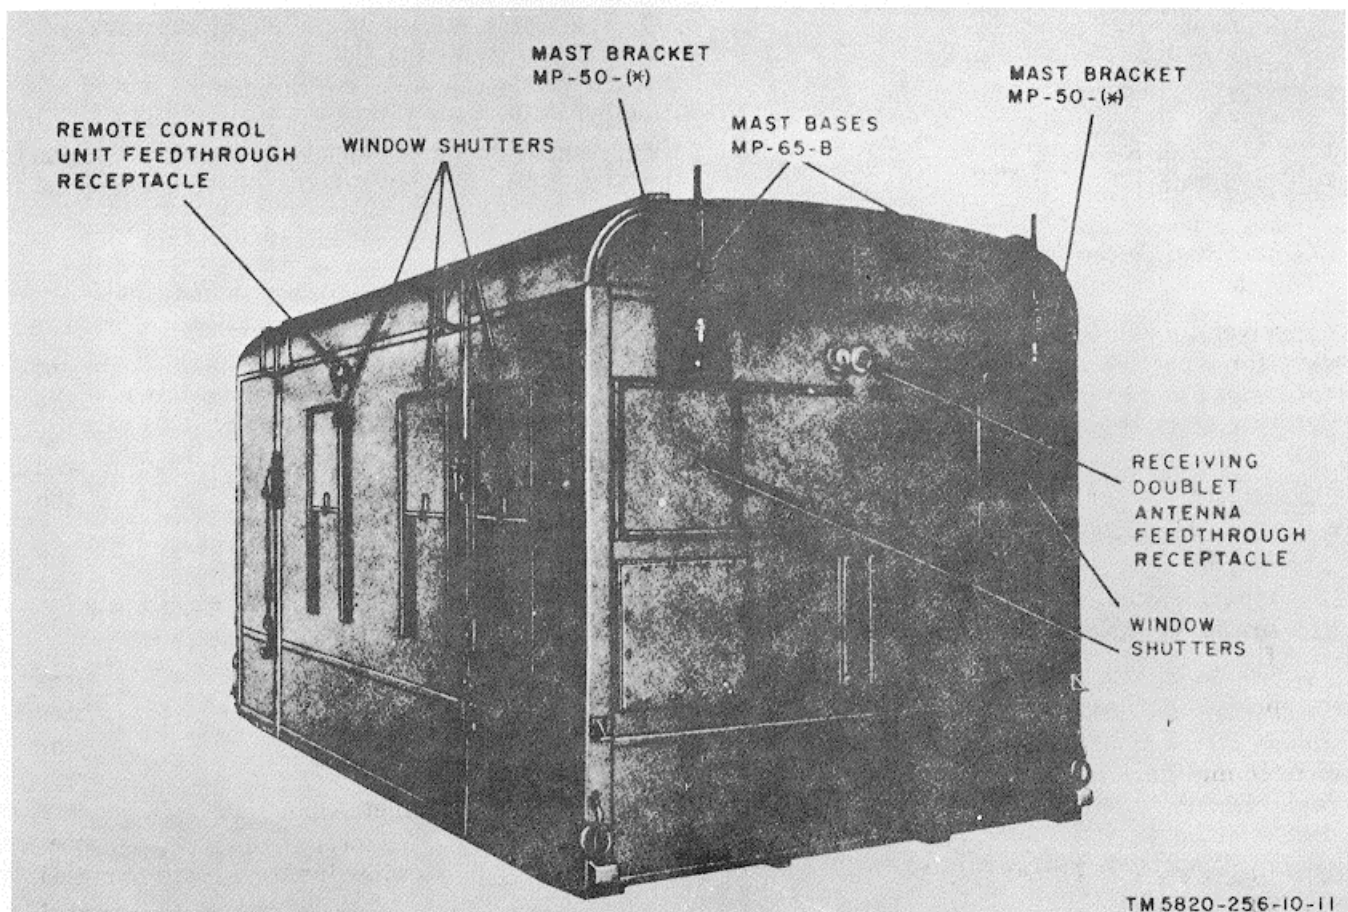
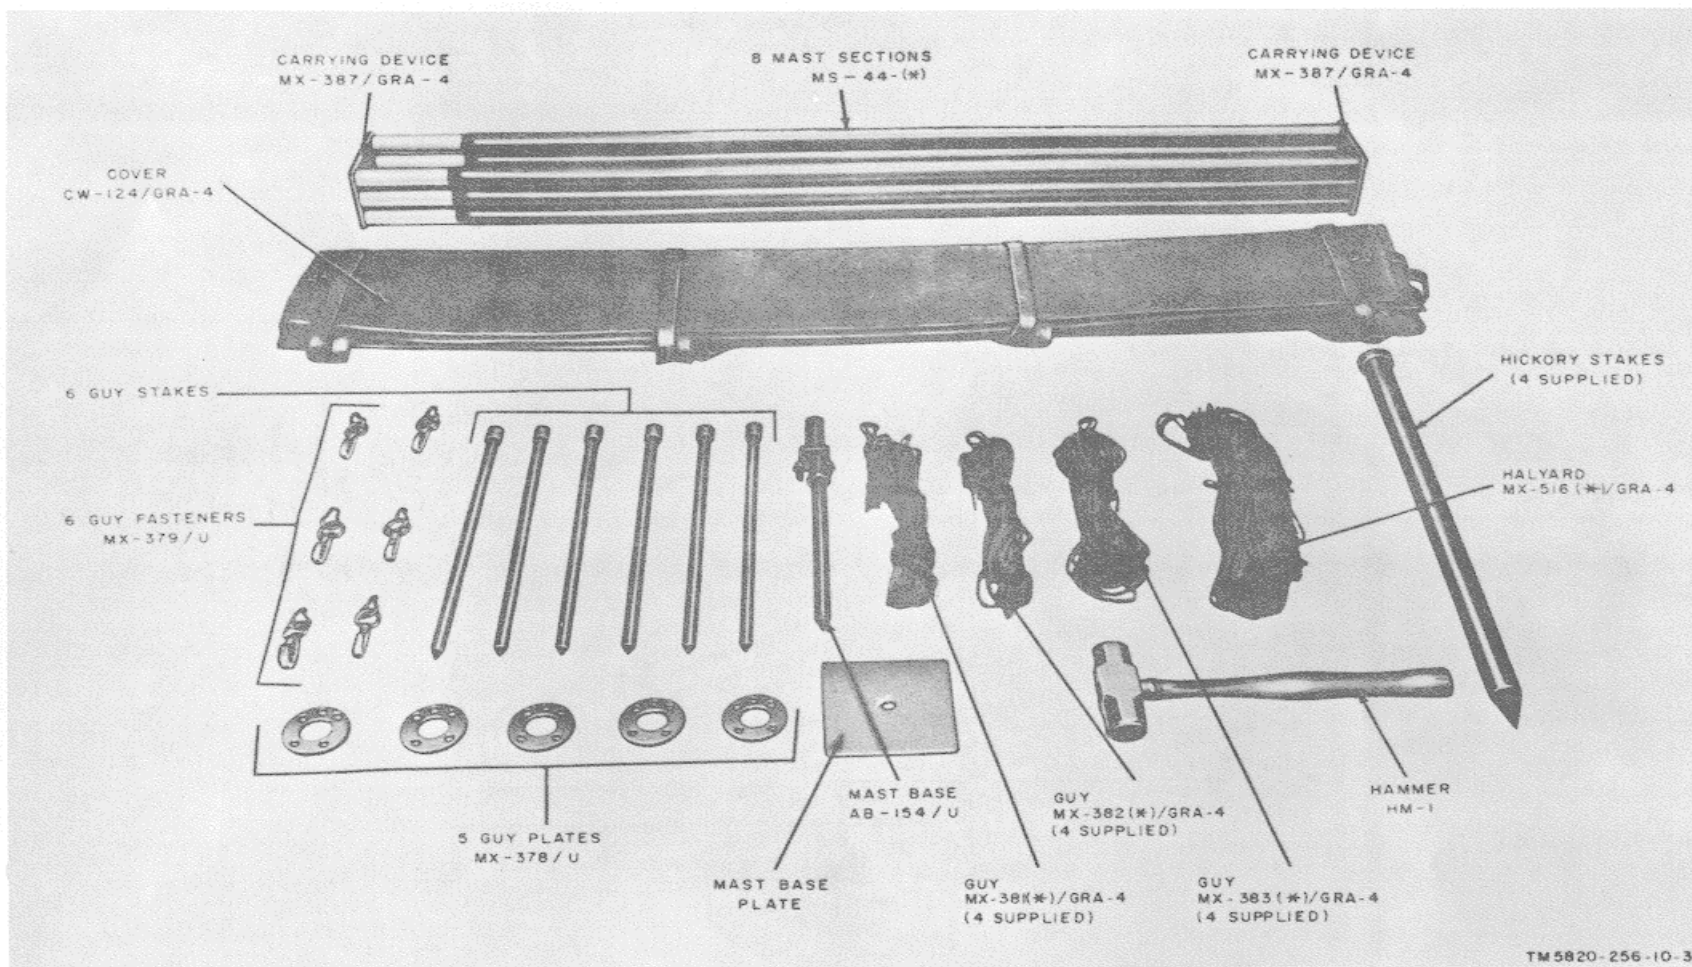

Figure 1-2. Shelter, Electrical Equipment S-56(*)/G, front oblique view.
Figure 1-17. Mast AB-155(*)/U, components.
a. The shelter (fig. 1-2 and 1-3) is an insulated steel and plywood structure that houses the components of the radio set. Six wall windows and the window in the rear door have screens and shutters. A roof hatch is provided in Shelter, Electrical Equipment S-56A/G only. The windows and hatch may be opened for ventilation. Interior wiring, electrical outlets, fluorescent lights, a window fan, and a ventilating blower are permanent parts of the 'shelter. Housekeeping and firefighting equipments are mounted in the shelter.
d. The connections between the doublet antennas and the receivers are made through the receiving doublet antenna feedthrough receptacle (fig. 1-2) on the front wall of the shelter. The connections to the remote line are made through the remote control unit feedthrough receptacle in the curbside wall of the shelter. Connections to the whip antennas are made through feedthrough receptacles in each whip mount
(1) Each receiving whip antenna consists of two Mast Sections MS-116A, one Mast Section MS-117-A, and one Mast Section MS-118-A, which are assembled and inserted in Mast Base MP-65B. Mast Base MP-65-B is mounted on Mast Bracket MP-50-(*), which is secured to the front exterior wall of the shelter (fig. 1-2). The whips are tied down with insulated guy assemblies when the radio set is operated while in motion.
(2) The transmitting whip antenna consists of three Mast Sections MS-116-A, one Mast Section MS-117-A, and one Mast Section MS-118-A, which are assembled and inserted in Mast Base MP-76. Mast Base MP-76 is mounted on Bracket MT-657/GRC and secured to the outside rear wall of the shelter. An insulated guy assembly is provided to tie the transmitting whip antenna in a horizontal position when the radio set is operated while in motion.
e. *Doublet Antennas*. Six Masts AB-115(*)/U (fig. 1-17) and 1,000 feet of Wire W-1 are furnished for the construction of half-wave doublet antennas. At frequencies from 1.5 to 4.0 MHz, three Masts AB-115(*)/U are used to support each doublet antenna; therefore, two antennas may be erected: one for receiving, and one for transmitting. At frequencies from 4.0 to 20.0 MHz, where shorter wire lengths are required, two Masts AB-115(*)/U are used to support each doublet; therefore, three antennas may be erected: two for receiving, and one for transmitting. Two Cable Assemblies, Radio Frequency CG-1334/U, each 500 feet long, are used for receiving antenna lead-ins. One RF Cable Assembly CG-692/U, 75 feet long, is used as a transmission line for the transmitting doublet. Figure 1-17 shows the components of one complete Mast AB-115(*)/U.
- (1) Place Mast AB-155(*)/U at each mast location and remove Cover CW-124/GRA-4 from Carrying Device MX387/GRA-4 (fig. 1-17).